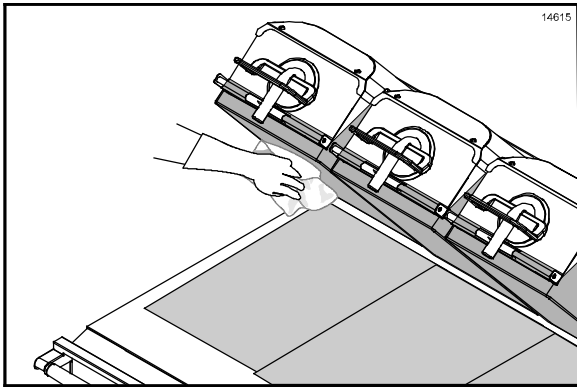

Figure 39
8. Wipe the exposed surface of the upper and lower release sheets with a clean, sanitizer-soaked grill cloth. (See Figure 39.)